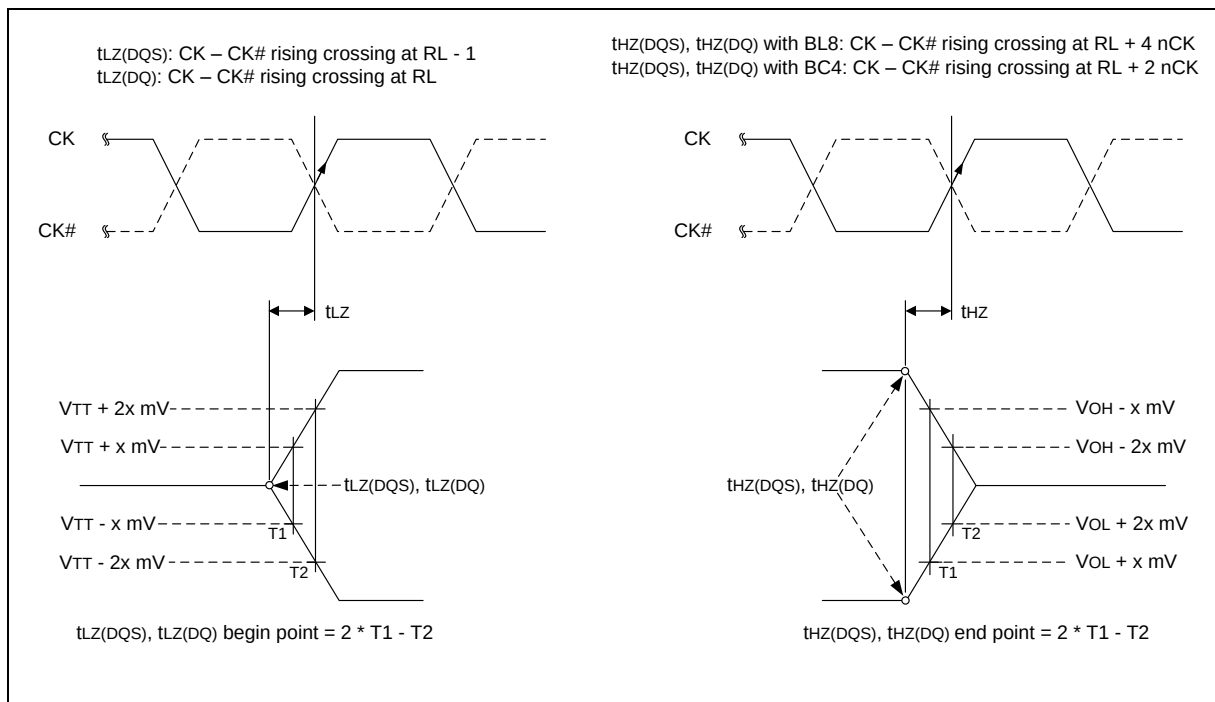

Figure 26 – tLZ and tHZ method for calculating transitions and endpoints
$tLZ(DQS)$ ,  $tHZ(DQS)$  for preamble/postamble (see section 9.13.2.3 and Figure 26).
tHZ and tLZ transitions occur in the same time window as valid data transitions. These parameters are referenced to a specific voltage level that specifies when the device output is no longer driving tHZ(DQS) and tHZ(DQ), or begins driving tLZ(DQS), tLZ(DQ). Figure 26 shows a method to calculate the point when the device is no longer driving tHZ(DQS) and tHZ(DQ), or begins driving tLZ(DQS), tLZ(DQ), by measuring the signal at two different voltages. The actual voltage measurement points are not critical as long as the calculation is consistent. The parameters tLZ(DQS), tLZ(DQ), tHZ(DQS), and tHZ(DQ) are defined as singled ended.